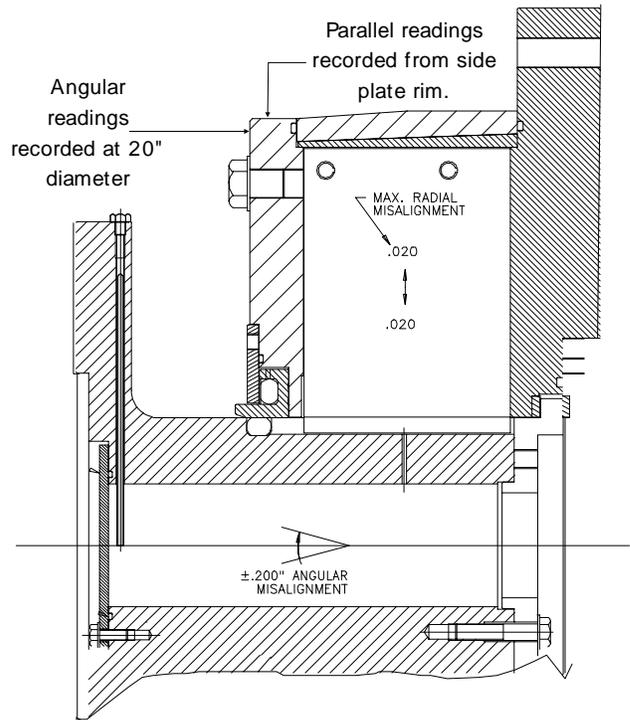

Figure 4
1.3.4 The drawing for a typical coupling shows maximum parallel misalignment (shown as radial misalignment), maximum angular misalignment. See Figure 4 for a typical drawing example, however, actual misalignment capabilities are shown each particular drawing for individual applications.
Example: (Reference Fig.4.)
- 2.2.1.1 In most cases, parallel and angular misalignment are present. This requires that two sets of measurements must be obtained (see section 1.3). One for parallel and the other for angular. The combination of these readings must fall within the triangle (see figure 4).